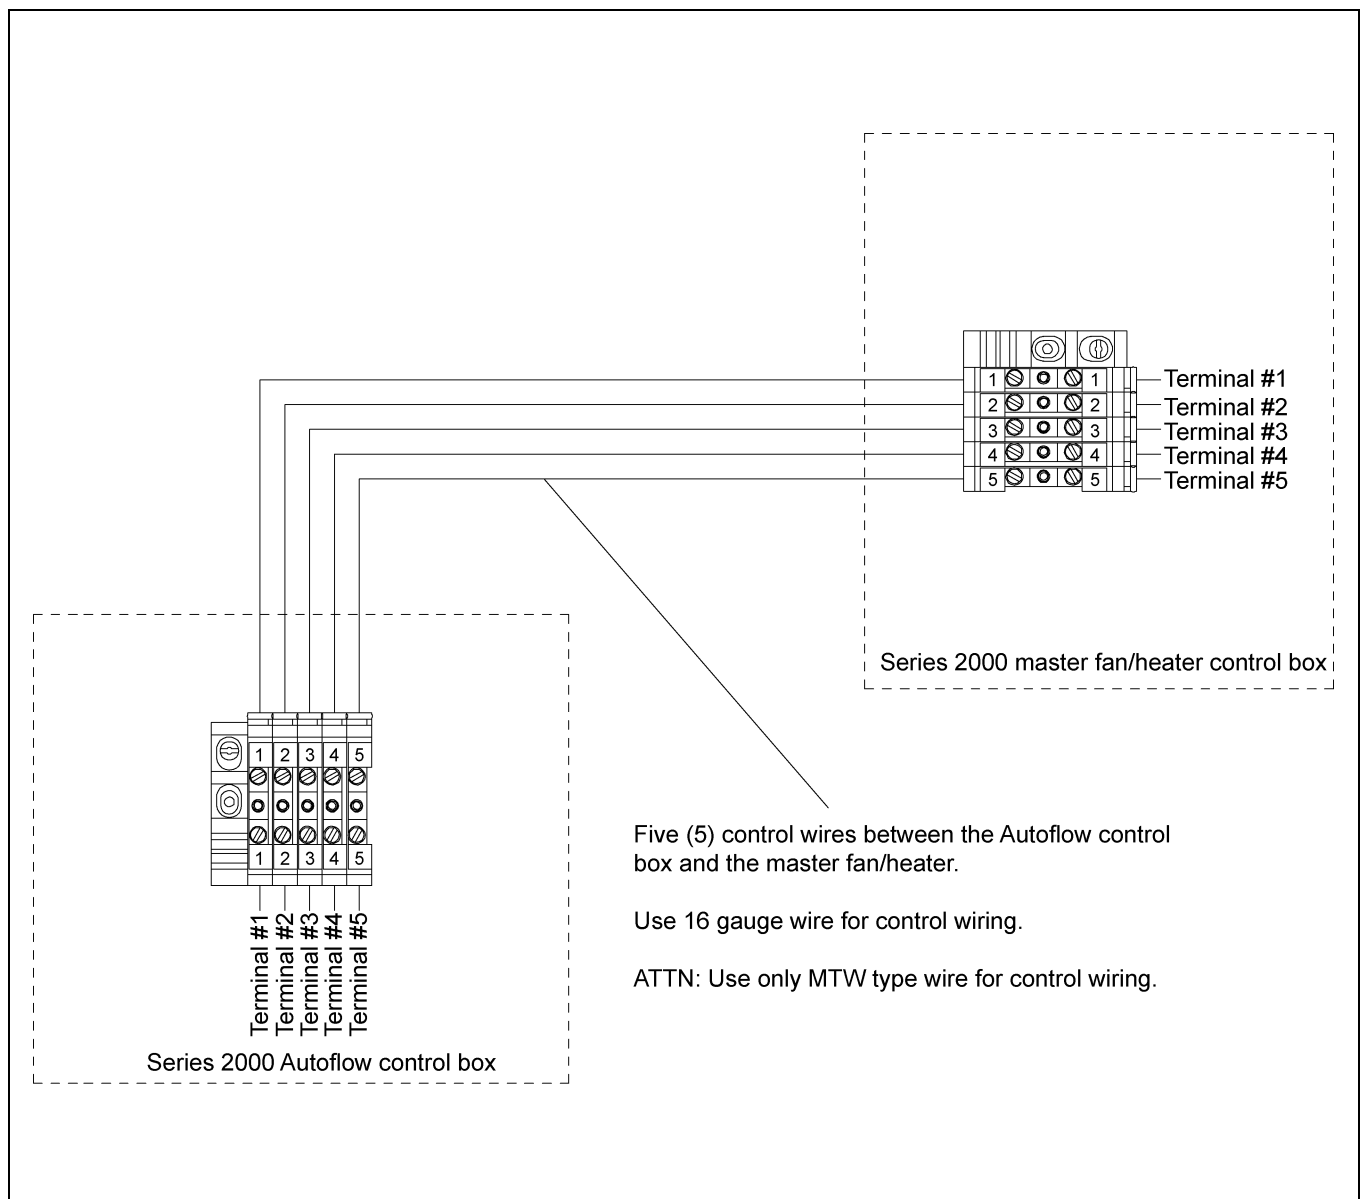

Figure 4E Master Fan and Heater Dip Switch Setting: #1 - "OFF"/All Others - "ON"
1. Run five (5) control wires from the Autoflow control box to the master fan/heater unit.
2. Connect the wires as shown in Figure 4E.